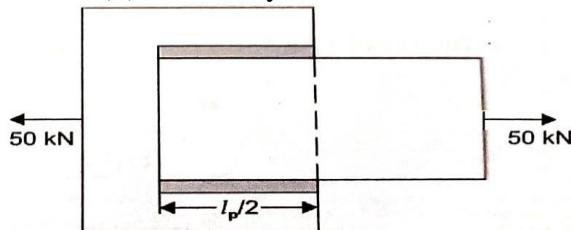

Fig.Q6 (b)
- b. A mild steel plate of 15 mm thickness is welded to another plate by two parallel welds to carry a load of 50 kN as shown in Fig.Q6 (b). Determine the length of the weld required: